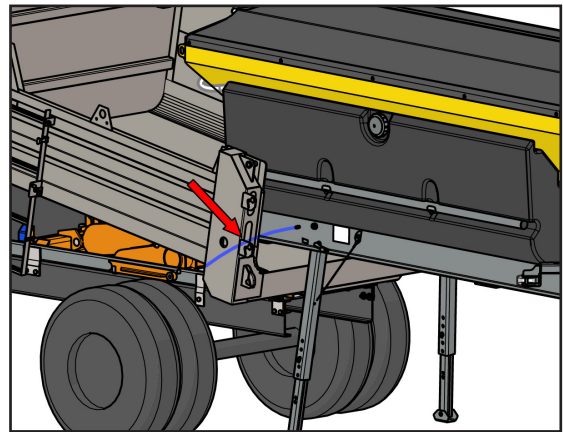

Figure 3 - Flag Stops
2. Figure 3 - Back truck underneath spreader until dump body sides contact stopping flags and spreader's front leg supports leave the ground.